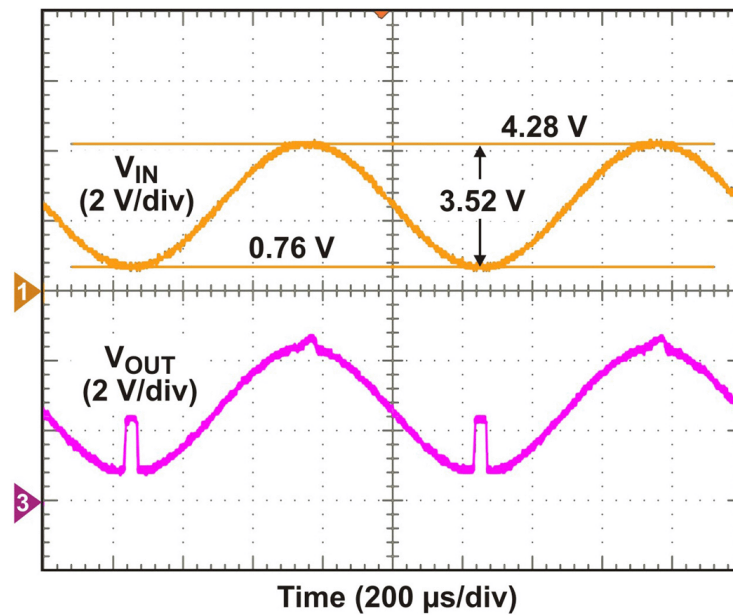
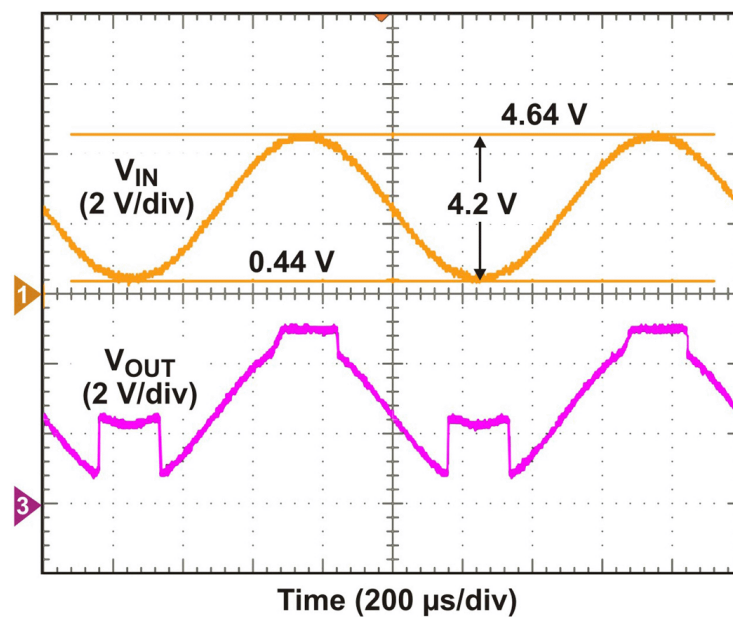

Figure 5: Onset of non-linear output behavior for TL971 when $V_{IN} = 3.52$ Vp-p.
Figure 6: Non-linear output behavior for TL971 when $V_{IN} = 4.2$ Vp-p.
As V_{IN} is increased slightly more to 3.52 Vp-p, V_{OUT} starts to exhibit non-linear behavior near both the positive (5V) and negative (0V) rails (**Figure 5**). V_{IN} is further increased to 4.2 Vp-p to clearly exceed V_{ICMR} . As the input peak exceeds the limit near the positive rail, the signal at V_{OUT} rails out as it jumps up to the positive rail (5V) and stays there until V_{IN} returns to an acceptable range (**Figure 6**). As the input drops below the limit near the negative rail, the signal at V_{OUT} exhibits a phase-reversal as it jumps to mid-rail (2.5V) and tracks V_{IN} with an offset until V_{IN} increases to an acceptable voltage within the V_{ICMR} .
- Figure 5 caption: Replaced **TLC7722** with **TL971**
- Figure 6 caption: replaced **TLC2272** with **TL971**